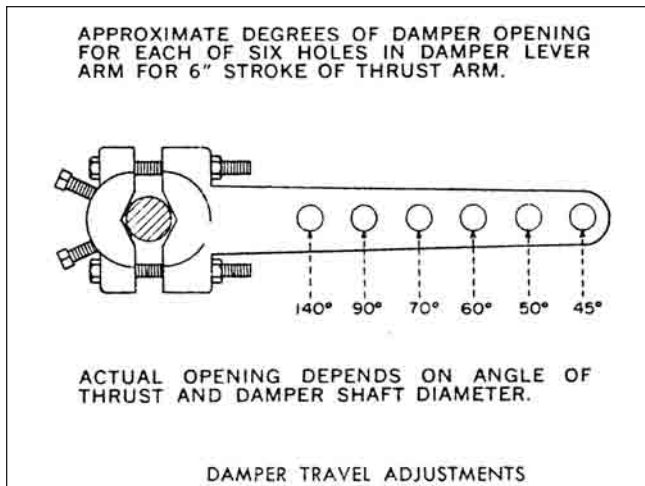

Figure 3
2. Attach the lever arm at 45° angle to the damper as shown in Figure 3.